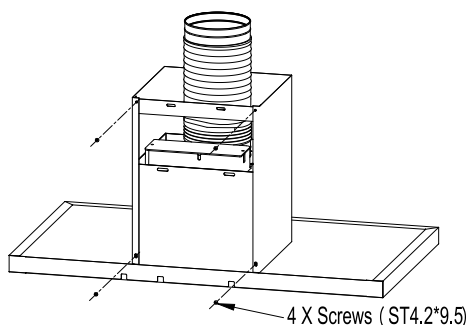

Fig.5
- Fix the exhaust pipe and chimney on the main body, connect chimney installation plate and chimney. See Fig.5.